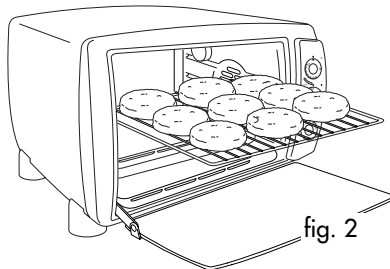
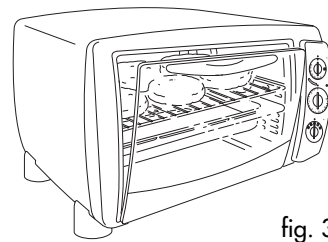

fig. 2
fig. 3
Once the preheating time is complete, place the food being grilled directly on the wire rack (Figure 2) and close the door, leaving it ajar, as shown in Figure 3; remember to turn the food half way through cooking.
Important: for best results, place the food on the wire rack (O), leaving an empty space of around 2cm near the door (see Figure 2).